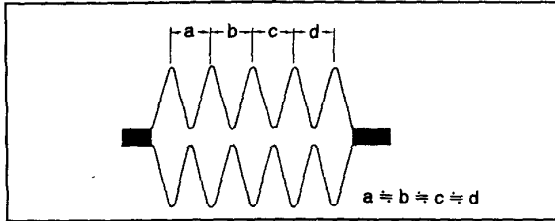

Fig. 4-11.
#### 4-7. CUE AND REV WAVEFORM CHECK (See Fig. 4-11.)
- 1) Play back the alignment tape for tracking adjustment and set the REV mode. Confirm that waveform peaks maintain a constant pitch of 5 seconds or more (See Fig. 4-11). In case pitch is not constant, perform section 4-4. Tracking Fine Adjustment and section 4-6. No. 7 Guide Adjustment.
- 2) Set the CUE mode. Confirm that waveform peaks still maintain a constant pitch of 5 seconds or more (See Fig. 4-11). Otherwise, perform section 4-4. Tracking Fine Adjustment.